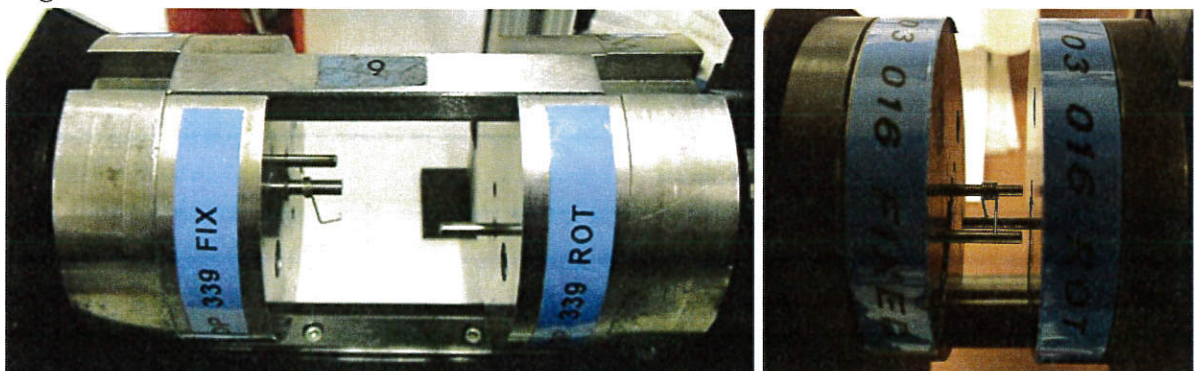
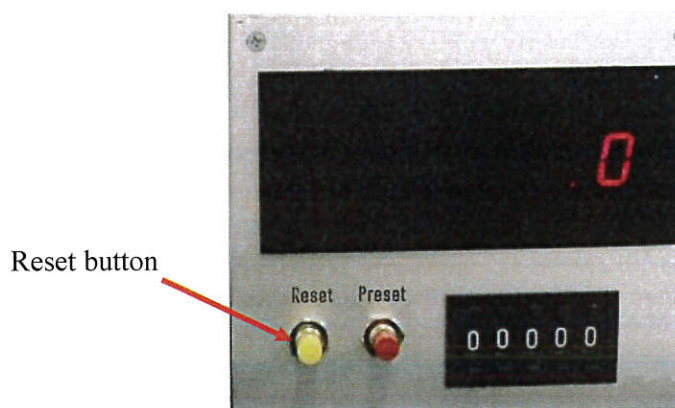

Figure 4: Align the test plates using either the setting bar, if available or a sample component.
Figure 5: Close up of angular display panel, see Figure 1: for location.
6.4.2. Align the Test Plates Using Setting Bar. Place the setting bar on to the test plates, as shown in Figure 4: this will ensure that the test plates are correctly aligned and then press the yellow reset button identified in Figure 5: Once the display has zeroed, remove the setting bar from the test plates and store it in the dedicated storage position.